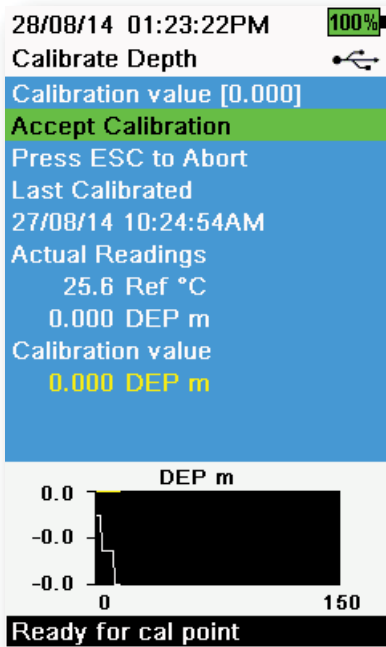

Figure 53 Calibrate Depth
3. Observe the actual measurement readings for stability (white line on graph shows no significant change for 40 seconds), then select **Accept Calibration** (Figure 53). "Calibration successful!" will be displayed in the message area.